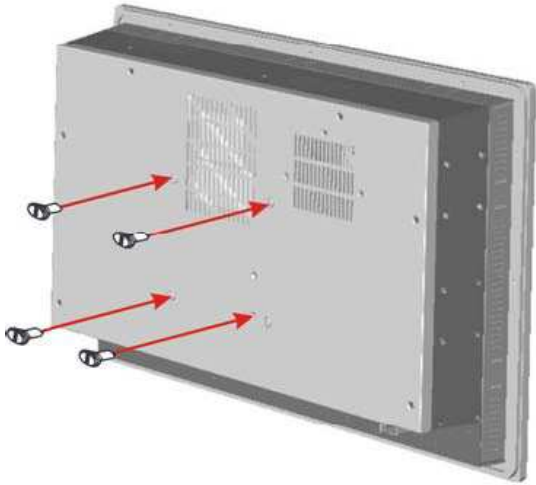

Figure 3-12: Chassis Support Screws
Step 6: Insert the four monitor mounting screws provided in the wall mounting kit into the four screw holes on the rear panel of the monitor and tighten until the screw shank is secured against the rear panel (see **Figure 3-12**).